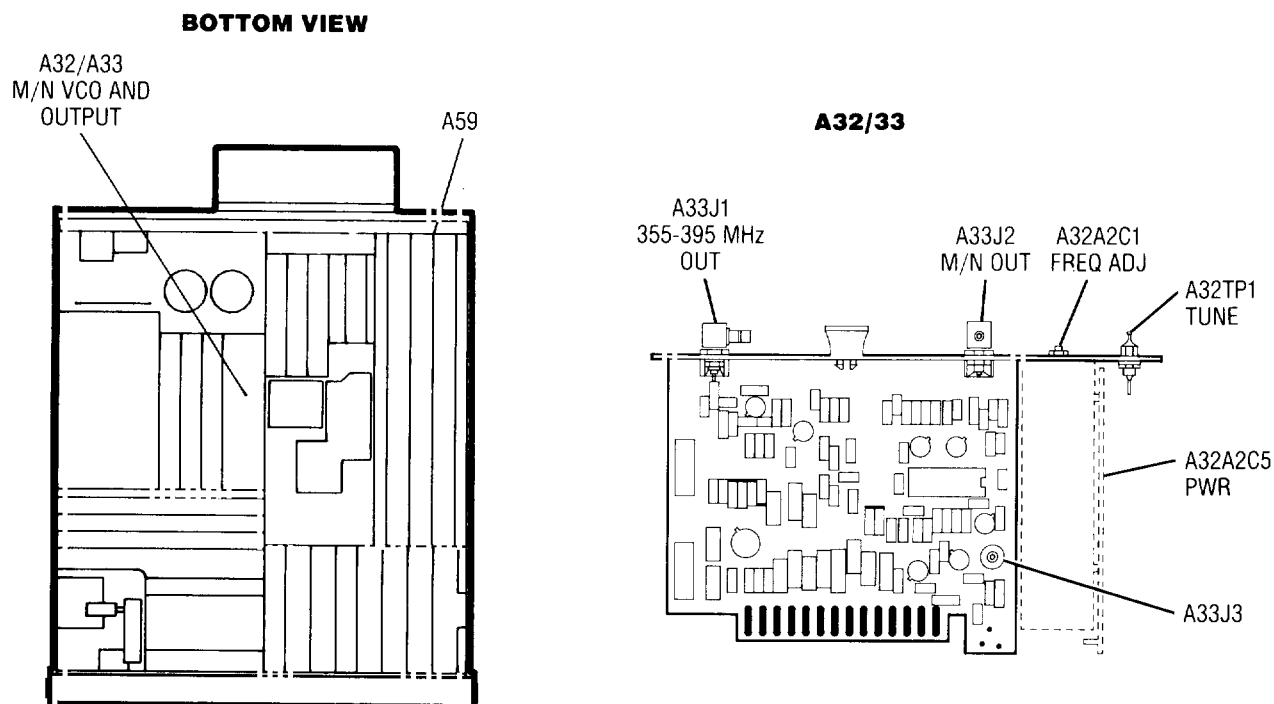

Figure 5-8. Location of M/N Loop Adjustments
6. Connect DVM to A32TP1 TUNE test point. Refer to Figure 5-8 for location of A32 assembly.
12. Disconnect the A32 output cable A32A1W1 from A33J3 (Figure 5-8) and connect this cable using SMB male-to-male adapter to the input of the Spectrum Analyzer. Set the DUT's LINE switch to ON and press **[INSTR PRESET]**.
15. Adjust A32A2C5 PWR for a VCO output level of 0 dBm ± 2 dB as indicated on Spectrum Analyzer. Refer to Figure 5-8 for location of adjustment.